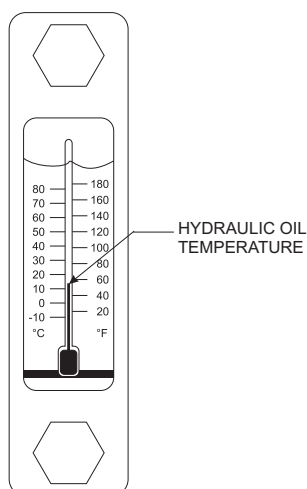

Figure 30. Hydraulic Oil Temperature Gauge
5. Let the pump cycle until the hydraulic oil temperature (Figure 30) is approximately 50° to 60°F.